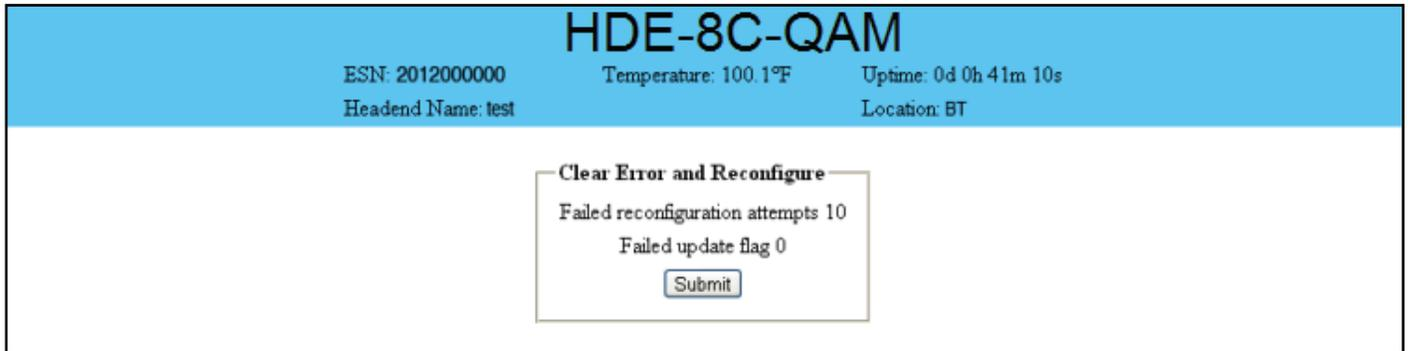

Figure 5.15
Warning: Care should be taken at this time, if miss spelled characters or letters are typed by accident, or you have missed to type the bin command in Step 1, this could cause the HDE-8C-QAM Flash memory to be corrupted. The HDE-8C-QAM will try to reload the OS using the corrupted file ten (10) times before it displays the following screen (Figure 5.15). You can recover from this situation by repeating the procedure all over again from Step 1 above.